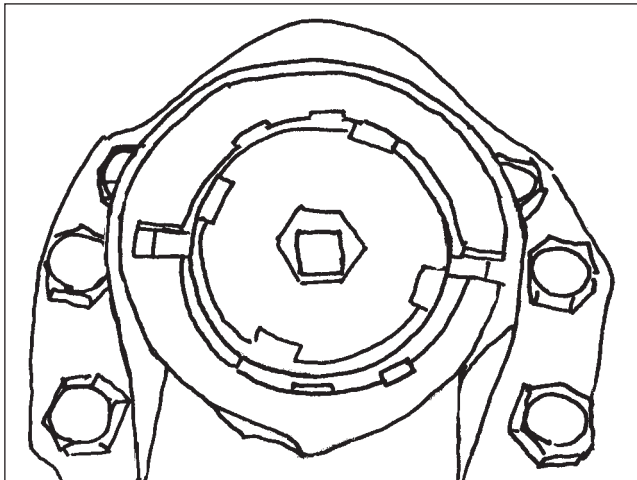

Figure 55
5. Screw the retainer into the output shaft by hand. Align the tabs of the retainer in the notches of the pitman arm (Figure 55).
8. Screw the retainer into the output shaft hand tight. Be sure to align the tabs of the retainer in the notches of the pitman arm Refer to Figure 55.